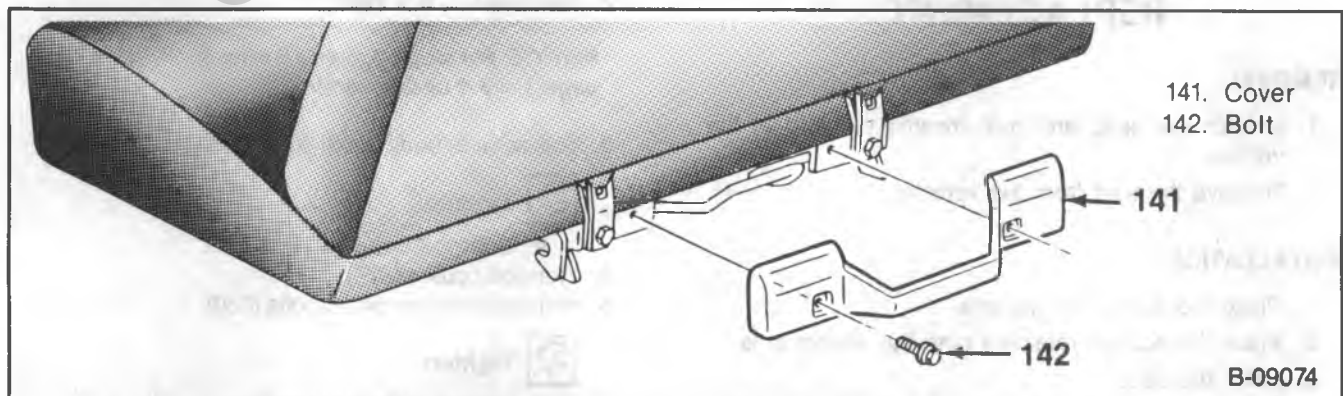

Figure 26 — Suburban Rear Seat Latch Cover
1. Rear seat latch cover (141) (figure 26).
2. Seat belts (281 and 282) from latch bolts (283).